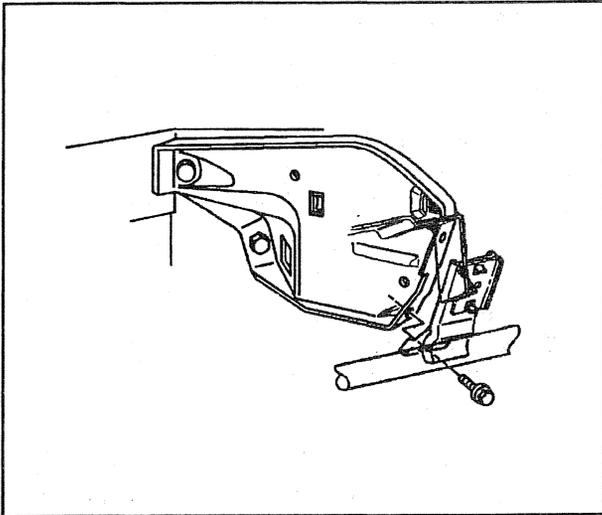

**Figure 4—I/P Pivot Bolts**
17. Left and right lower I/P pivot bolts (figure 4).